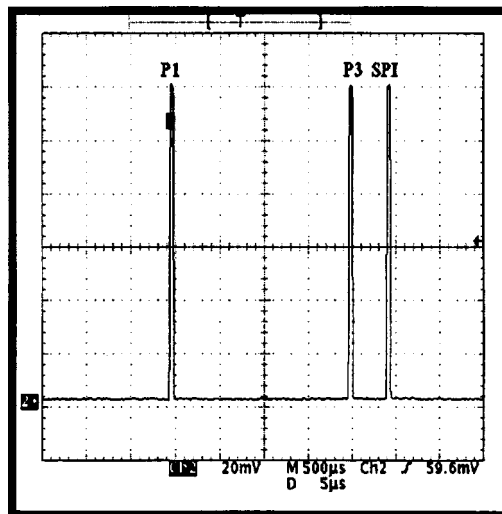

Figure 3-5. P1, P3, and SPI Pulses
4. Press the **IDENT** button on the transponder. The unit shall cause the ATC-1400A XPDR Code display to read 1d0000 for approximately 20 seconds. The SPI pulse shall appear next to the P3 pulse on the oscilloscope. See Figure 3-5.